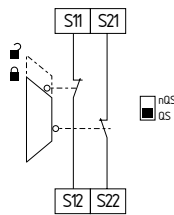

Fig. 11
**Dual-channel guard door monitoring circuit with interlocking device to ISO 14119 (Fig. 11)**